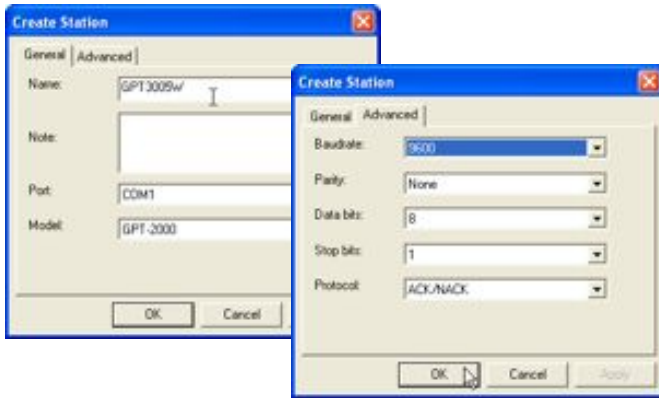

Figure 2-2. Enter Topcon Total Station Device Information
3. On the *General* tab, enter and select the following information (Figure 2-2 on page 2-5):
- On the *Advanced* tab, select the baud rate, parity, data bits, stop bits, and protocol used for communication with the Total Station (Figure 2-2). Refer to the Topcon Total Station operator's manual for details.
- On the *Advanced* tab, select the baud rate, parity, data bits, stop bits, and set checksum (*Set* or *Not Set*) and flow control (*None* or *Xon/Xoff*) used for communication with the Sokkia Total Station (Figure 2-2). Refer to the Sokkia Total Station's documentation for details.
3. On the **General** tab, enter and select the following information (Figure 2-2 on page 2-5):
- On the *Advanced* tab, select the baud rate, parity, data bits, stop bits, and set checksum (*Set* or *Not Set*) and flow control (*None* or *Xon/Xoff*) used for communication with the Sokkia Total Station (Figure 2-2). Refer to the Sokkia Digital Level's documentation for details.